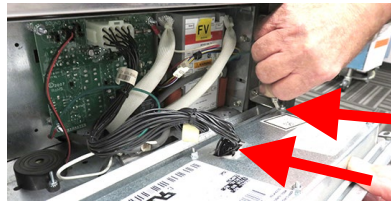

Figure 1
3. Lower the controller and disconnect the harnesses from the controller (see Figure 1).